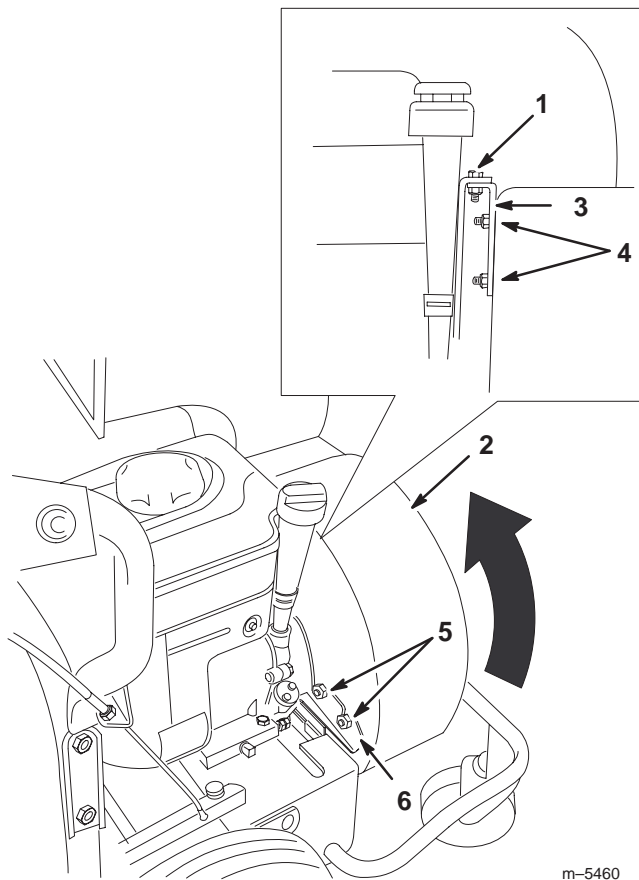

Figure 16
6. Remove bolt securing blower housing to engine bracket (Fig. 16).
7. Remove the 2 locknuts securing housing to engine bracket and remove the bracket (Fig. 16).
9. Remove the 2 locknuts securing housing to stabilizer bracket (Fig. 16).